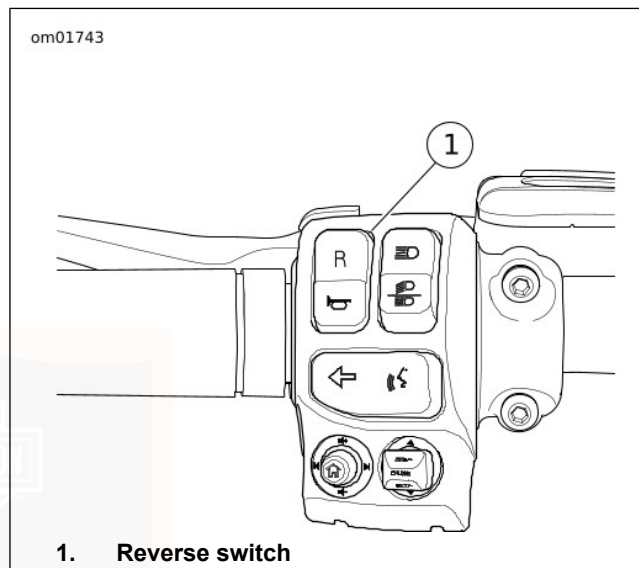

Figure 45. Reverse Controls
2. See Figure 45. With the vehicle started and in neutral, press and hold the reverse switch in the left side controls until the reverse lamp illuminates. **FLHTCUTG:** The lamp in the tachometer indicates that the reverse is enabled. See Figure 6. **FLRT:** The lamp in the speedometer indicates that the reverse is enabled. See Figure 7. Release the reverse switch. The neutral lamp turns off when the reverse lamp turns on.